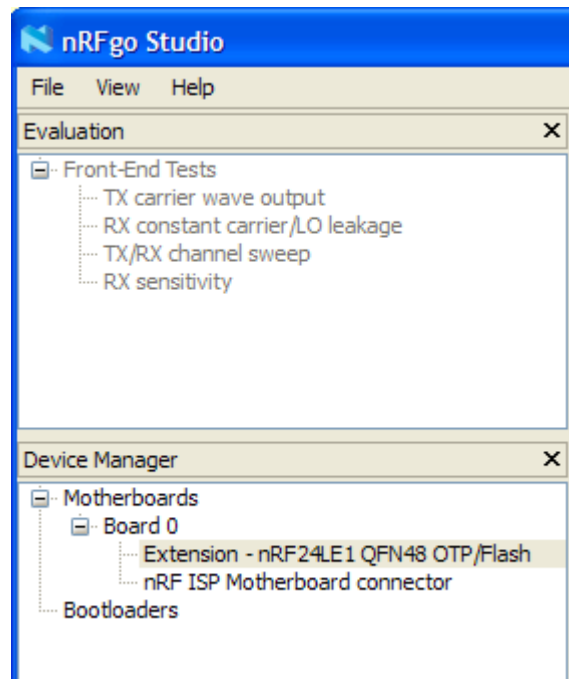

Figure 5. Device Manager field in nRFgo Studio interface
5. In your nRFgo Studio user interface, mouse-click the “+” box to the left of “Board 0” in the “Device Manager” tree view to expand the node. Please see Figure 5. on page 10.
6. After having expanded the “Board 0” node, click on the “Extension” selection that appears in the “Device Manager” tree view. See Figure 5.
4. In your nRFgo Studio user interface, mouse-click the “+” box to the left of “Board 0” in the “Device Manager” tree view to expand the node. See Figure 5. on page 10.
5. After having expanded the “Board 0” node, click on the “Extension” selection that appears in the “Device Manager” tree view. See Figure 5. on page 10.